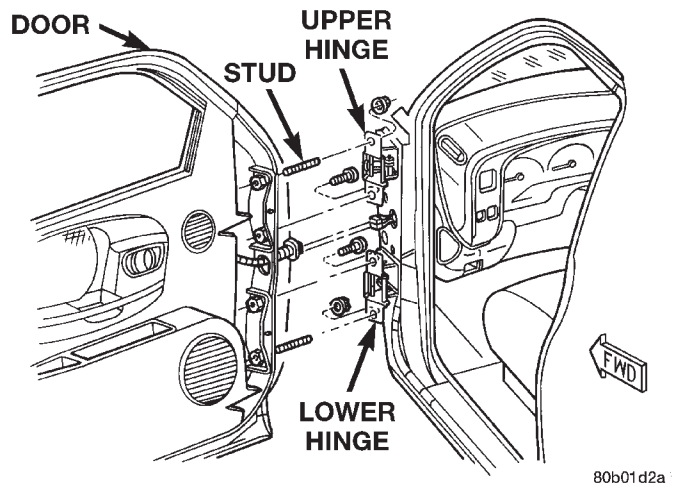

Fig. 27 Door Hinge
- (1) Release door latch and open door.
- (2) Using a suitable marker, mark the outline of the door hinges on the door end to aid installation.
- (3) Remove protective boot from door wire harness connector.
- (4) Disengage door wire harness connector.
- (5) Support door on a suitable lifting device.
- (6) While holding the door steady on lift, remove bolts and nuts attaching upper and lower door hinge to door end (Fig. 27).
- (7) Separate door from vehicle.